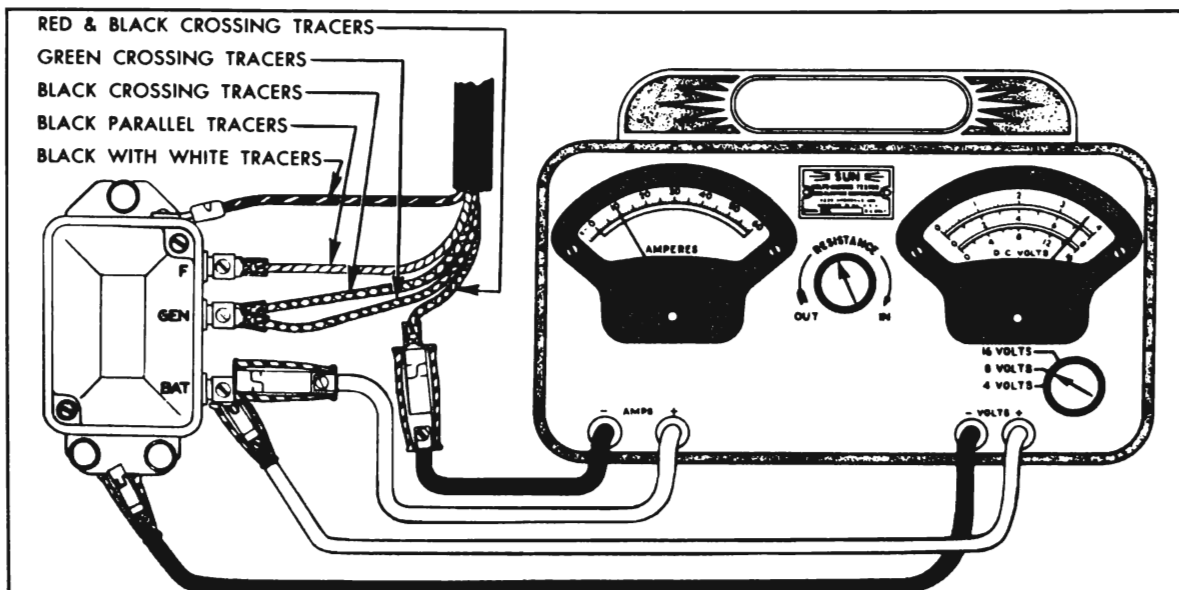

Figure 10-21—Voltage Regulator Test Connection—Variable Resistance Method
11. Change voltmeter test lead from "GEN" to "BAT" terminal of regulator, leaving other test lead connected to ground. See figure 10-21.